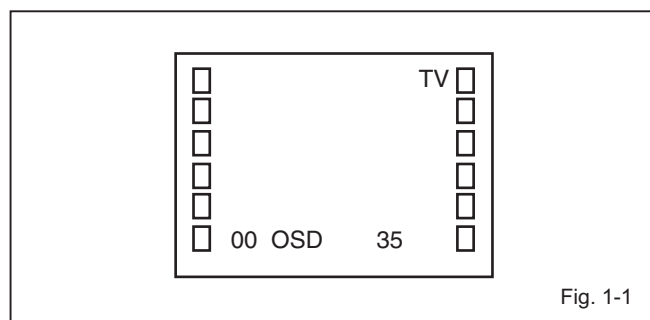

Fig. 1-1
Press the VOL. DOWN button on the set and the Channel button (9) on the remote control for more than 1 second to appear the adjustment mode on the screen as shown in **Fig. 1-1**.
2. Activate the adjustment mode display of **Fig. 1-1** and press the channel button (01) on the remote control to select "CUT OFF".
4. Activate the adjustment mode display of **Fig. 1-1** and press the channel button (12) on the remote control to select "R. BIAS".
3. Activate the adjustment mode display of **Fig. 1-1** and press the channel button (03) on the remote control to select "H.PHASE".
3. Activate the adjustment mode display of **Fig. 1-1** and press the channel button **(07)** on the remote control to select "V. SIZE".